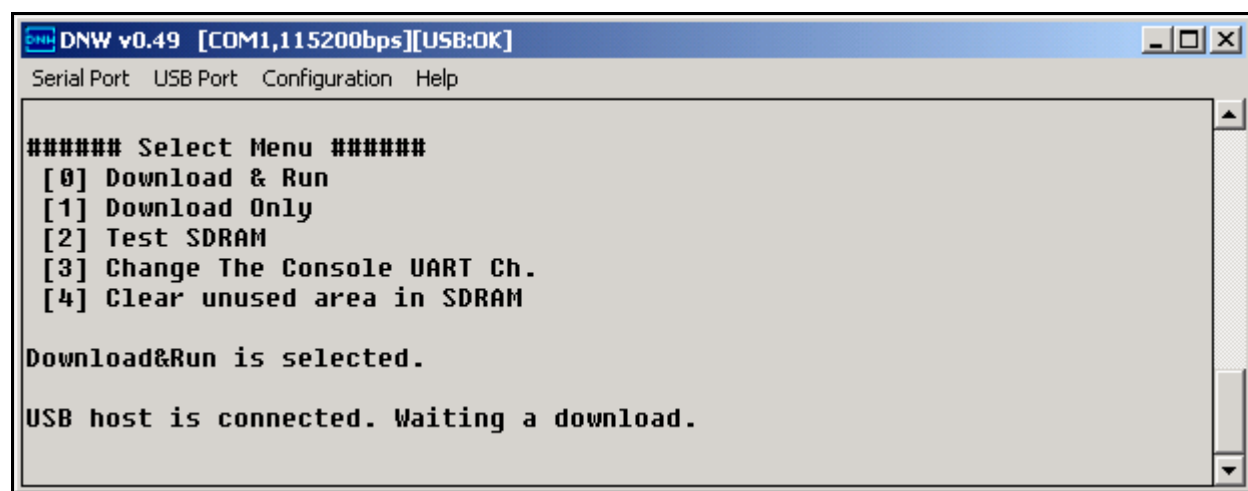

Figure 6-5 Download & Run
7. Please enter '0' to Download and Run the Image on the board. The DNW application window will now appear on your screen as shown below in the figure 6-5.